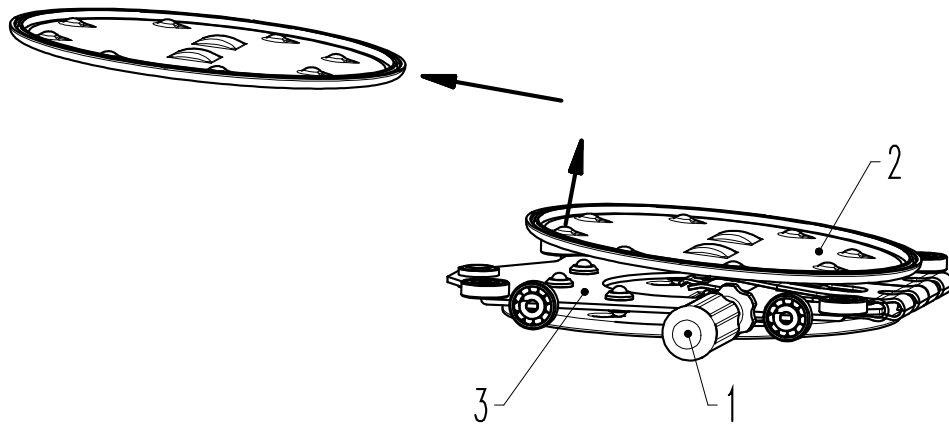
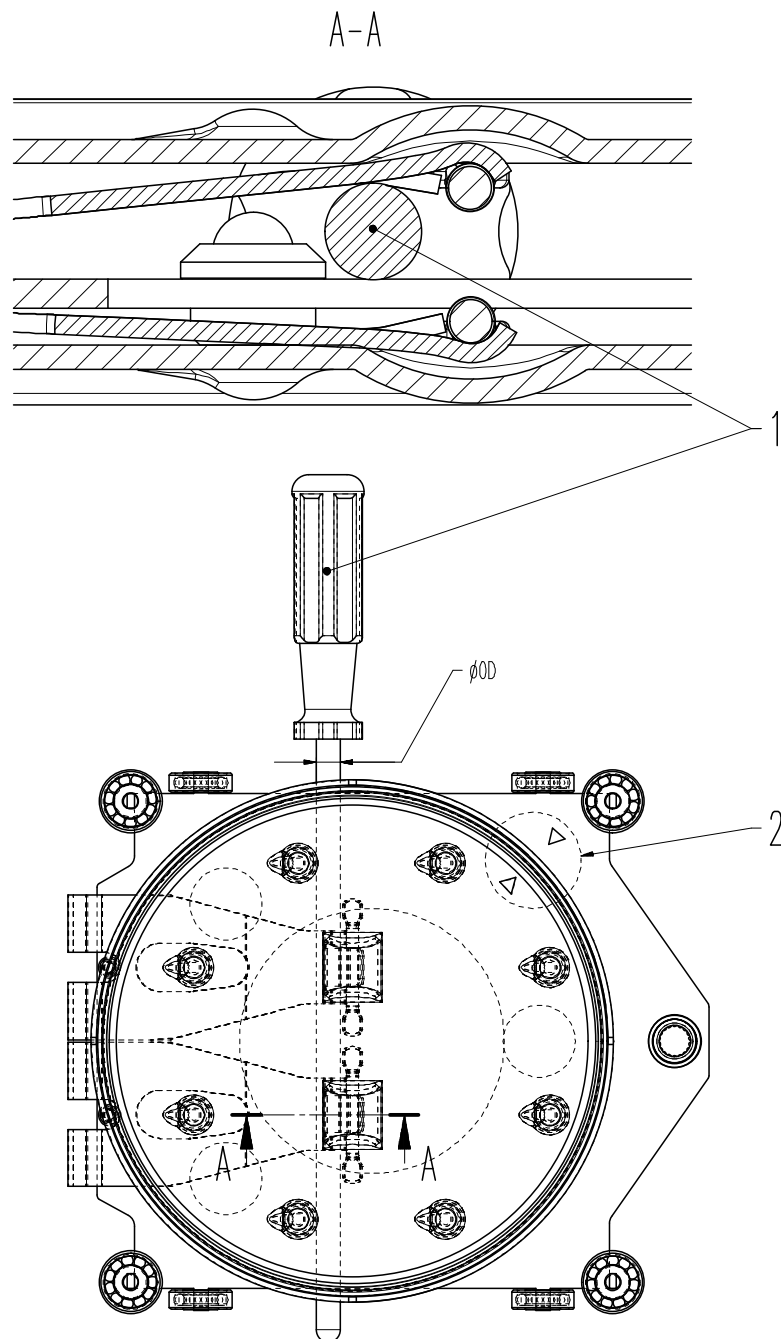

Figure 7-4
Figure 7-5
For dismantling and mounting the valve gate always use tool (1) according to «Figure 7-4». The tool may be ordered from VAT.
13. Lift valve gate (2) by hand and insert tool (1) between valve gate (2) and ball guidance (3); see «Figure 7-4» and «Figure 7-5» on page 23.
14. Remove valve gate in direction of the arrow; see «Figure 7-4» on page 22.
The markings Δ and ∇ (2) according to «Figure 7-5» on page 23 on ball guidance and valve gate must face each other.
16. Withdraw tool according to «Figure 7-4» on page 22.